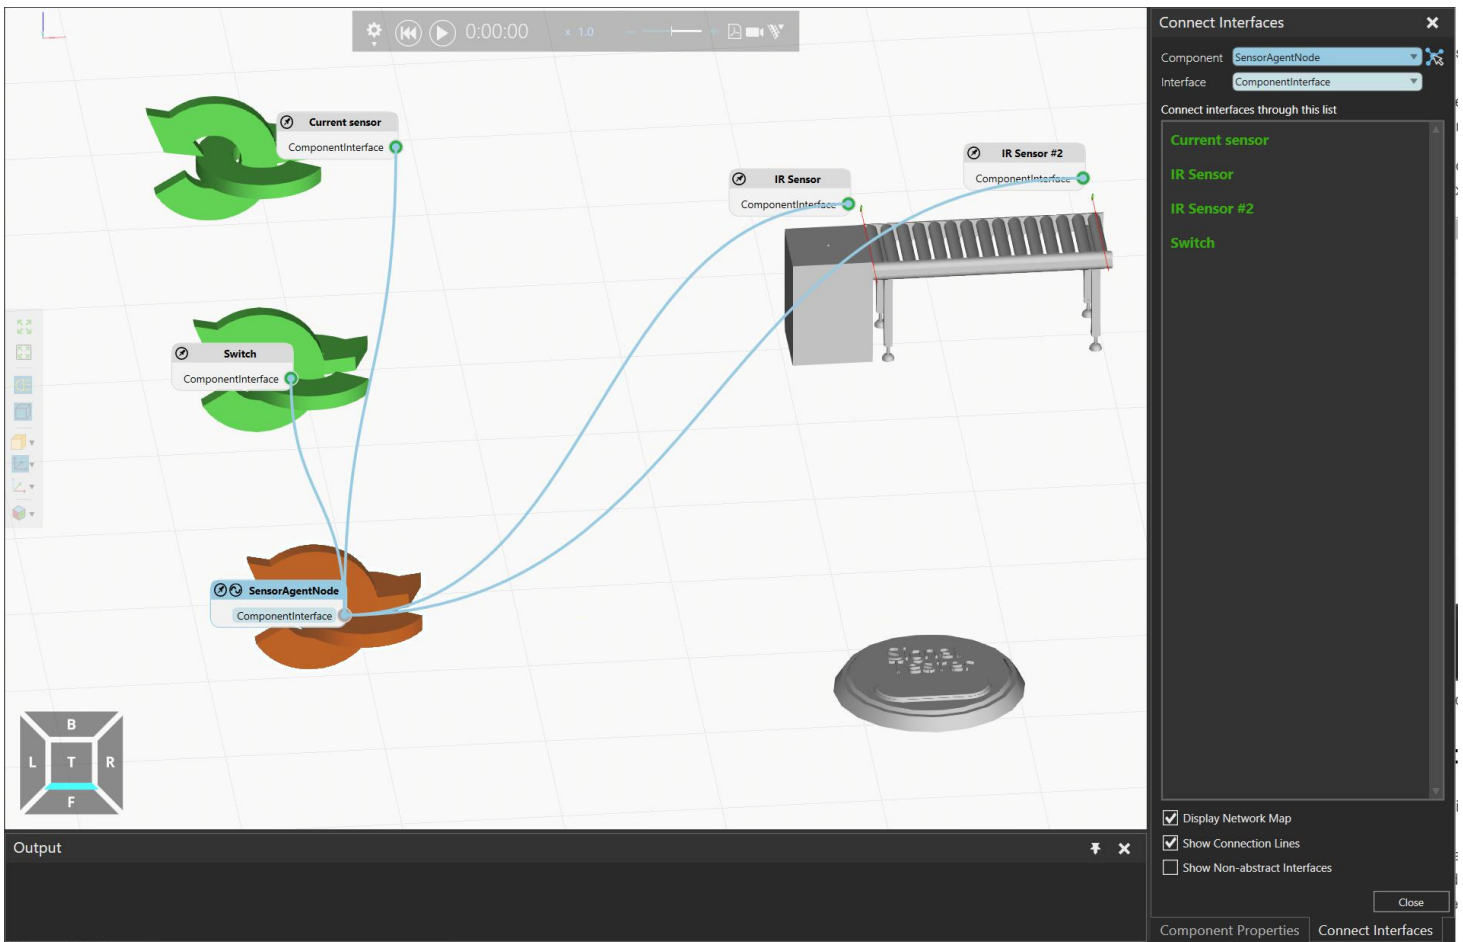

Figure 5. Screenshot of the *switch* sensor configuration tab.
**IR** Simulates an IR sensor. Similar to previous sensors, it can be configured as shown in Figure 5.
Once the SAN and the sensors have been added to the simulation layout, connect them as shown in Figure 5 (Enable the interfaces and connect the sensors to the SAN ).
In order to test the functionalities of the SAN and related sensor components, a demo layout (*SensorAgentNode\_Demo*) has been created (Figure 5). The demo layout simulates a simple feeder with a conveyor. Two IR sensors are included with the conveyor, one is located at the beginning and one at the end of the conveyor. The sensors detect when a part enters and exists the conveyor. In addition, two other sensors have been added: the switch (detects change in "switch value" in sensor tab) and the current sensor, which can be validated with the SignalTester (change "RealSignalValue" value and presh "TriggerSignal").